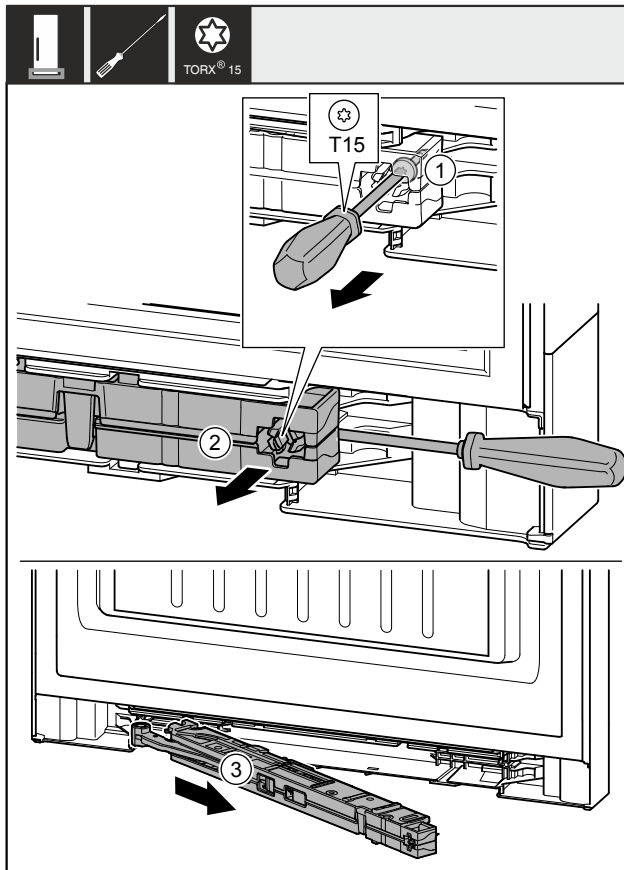

Fig. 12
- Use screwdriver to loosen the screw Fig. 12 (1) on the closing damper unit by approx. 14 mm.
- Lever the closing damper unit Fig. 12 (2) forwards on the handle side using a screwdriver.
- Pull out the closing damper unit Fig. 12 (3).